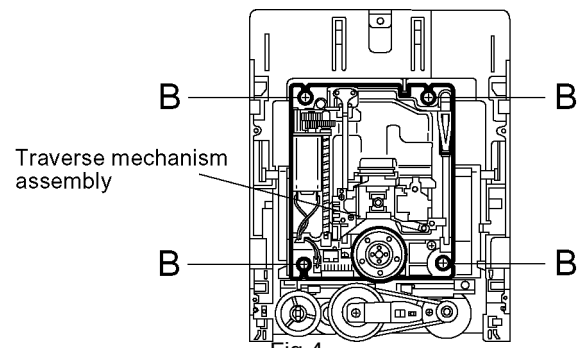

Fig.4
3.1.3 Removing the traverse mechanism assembly (See Fig.4 and 5)